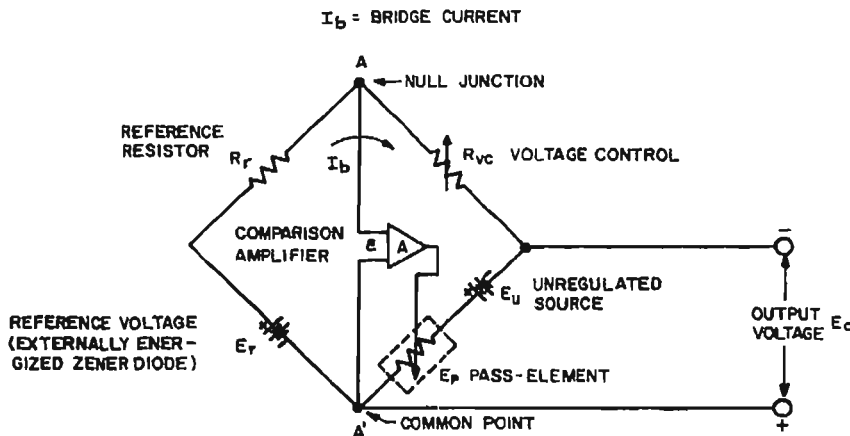

FIG. 3-3 KEPKO POWER SUPPLY CIRCUIT WITH COMPARISON BRIDGE (SIMPLIFIED)
- 3-9 GENERAL. A few general remarks may be in order to familiarize the user of this equipment with the terminology and basic equations pertaining to remote programming of Kepco Power Supplies. Electrically, the power supply, consists of the unregulated DC source (E_U), the pass element (E_P), the DC error amplifier (A) and a comparison circuit which resembles a four-arm electrical bridge. (Refer to FIG. 3-3). The elements of the bridge are arranged to produce a virtual zero at the amplifier input when the bridge circuit is at balance ($V_{AA'} = 0$). Any tendency for the output voltage to change in relation to the reference voltage (E_R) creates an error signal (e) which, by means of negative feedback and the amplifier, tends to correct the output voltage towards restoration of bridge balance.